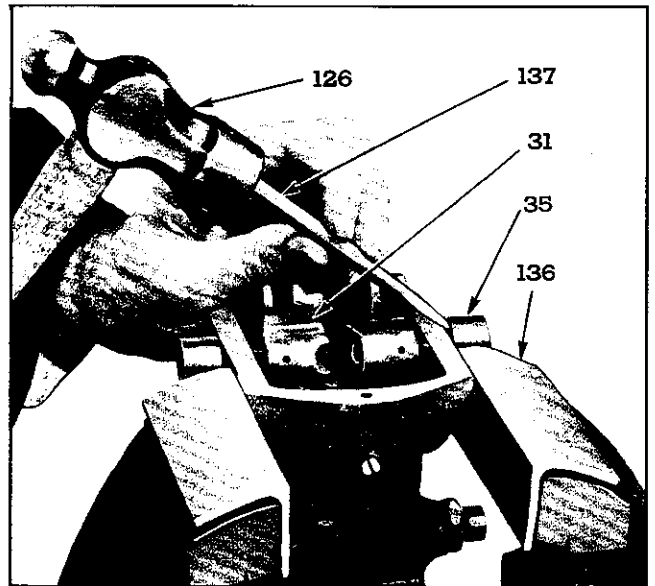

Fig. 40—Removing Terminal Sleeve and Welch Plug from Governor Case. (Operation 2.)
(b) Now using special driving bar against shoulder on sleeve (35), as shown in Fig. 40, drive sleeve and Welch plug (73) as an assembly from the case. Remove opposite sleeve and Welch plug in the same manner. Shafts (50) and (71) may now be removed from the case.
13. If there is any call for doing so, the Welch plugs (73) may be driven from the terminal shafts by